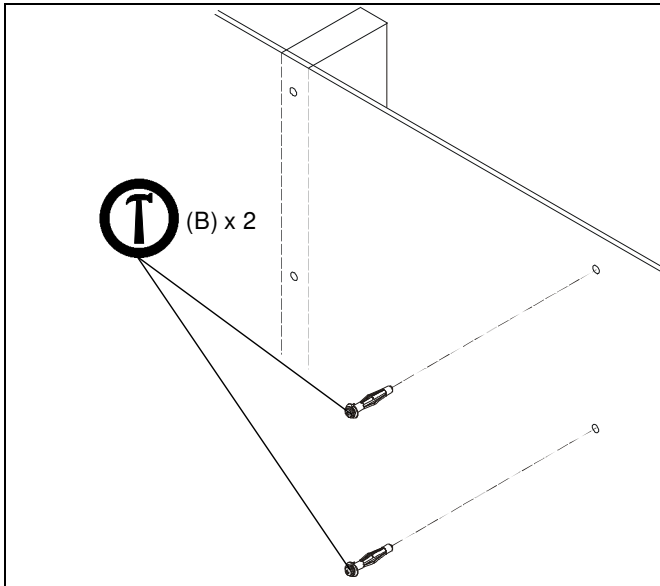
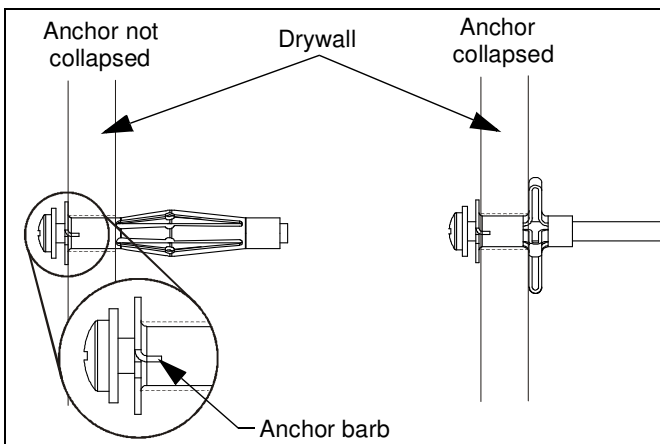

Figure 3
Figure 4
5. Gently tap two anchors (B) into anchor holes. Anchor barbs should be fully engaged in drywall. (See Figure 3) and (See Figure 4)
6. Using Phillips screwdriver, tighten anchor screw until anchor has fully collapsed against back side of drywall. (See Figure 4)